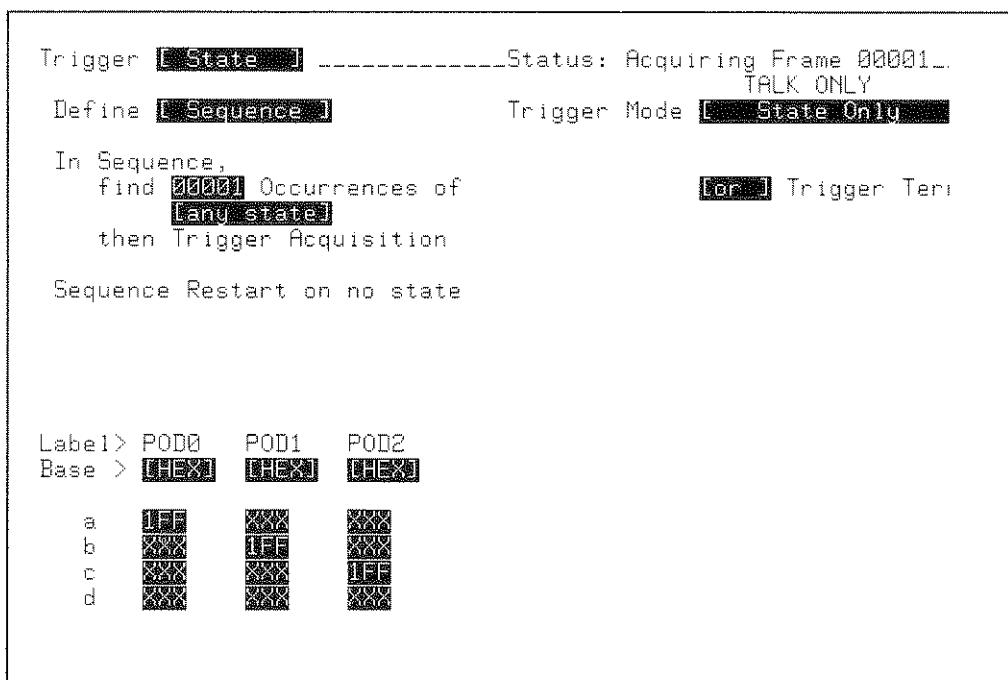

Figure 9-23. TRIGGER State / Define [Sequence] Menu
5. Configure the TRIGGER State / Define [Sequence] menu as shown in figure 9-23.
4. Configure the TRIGGER State / Define [Sequence] menu as shown in figure 9-23.